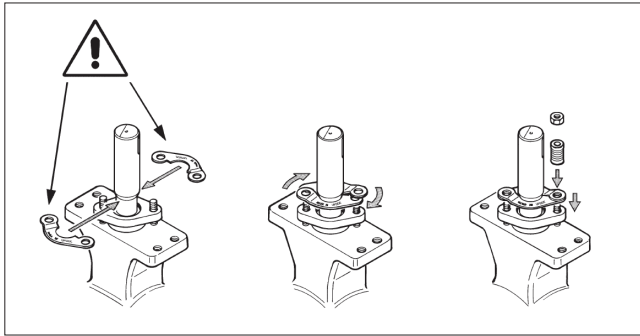

Fig. 12 Mounting the retainer
- Unfasten the nuts (43) and remove the disc spring sets (21), the retaining plates (24) and the gland (9).
- Remove old packing rings (22). Do not damage the surfaces of the packing ring counterbore and shaft. It is not necessary to change anti-extrusion ring (23).
- Install the retainer plates, one on top of another on the stud and the opposite another way around (Figure 12). Once the retainer plates are in the right place, install the other stud.